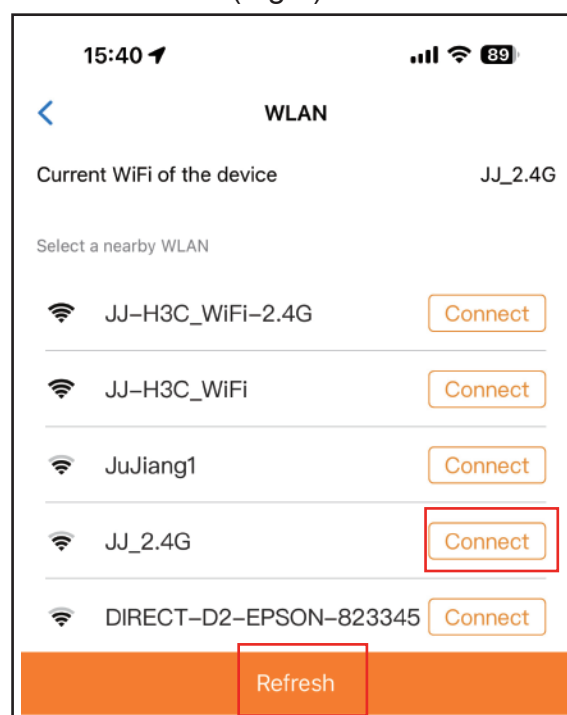

Fig 8
Step 2. Select the new WiFi and connect it. And click the “Refresh”. (Fig 8)